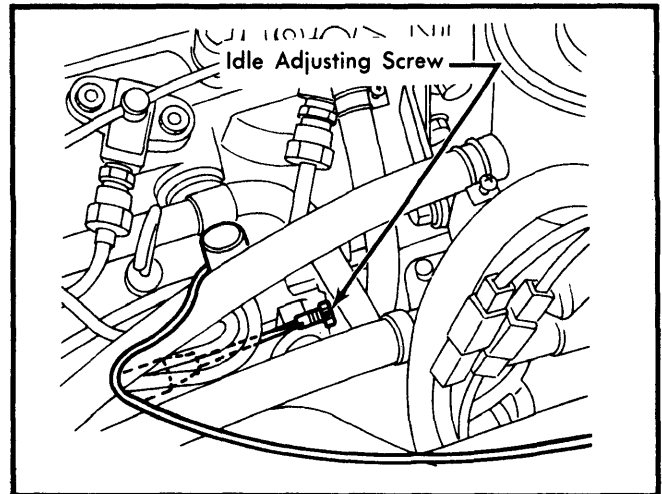

Fig. 2 Idle Adjusting Screw Location
2) If adjustment is required, loosen idle adjusting screw lock nut on idle adjusting screw. Turn screw until proper idle RPM is obtained. Tighten lock nut. See Fig. 2.